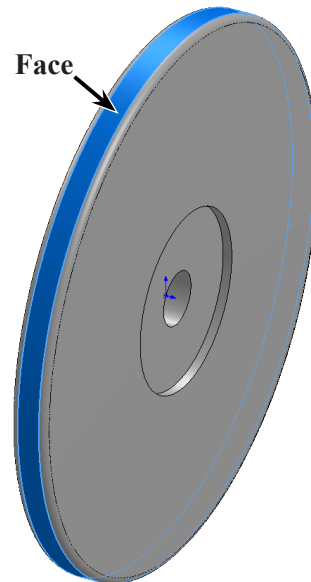

Fig. 15
Step 1. Click a **cylindrical face** to select it, Fig. 15.